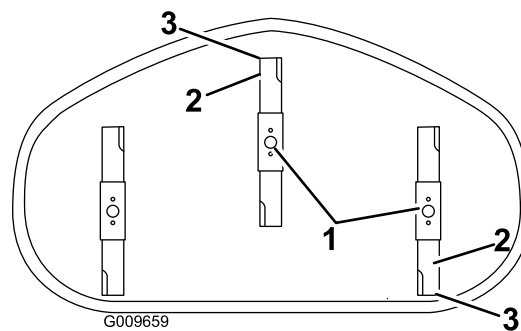

Figure 56
4. Carefully rotate the blades so they are facing front to rear (Figure 56).
5. Measure from the tip of the front blade to the flat surface and the tip of the rear blade to the flat surface (Figure 56). If the front blade tip is not 1.6-7.9 mm (1/16-5/16 inch) lower than the rear blade tip, adjust the front locknut.
8. After adjustment, check the front-to-rear slope again. Continue adjusting the nut until the front blade tip is 1.6-7.9 mm (1/16-5/16 inch) lower than the rear blade tip (Figure 56).